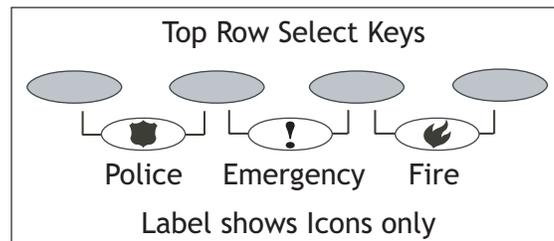

Figure 5: Panic key label placement
All 7000 Series keypads offer a Panic key function that allows users to send Panic, Emergency, or Fire reports to the central station. You must enable the Panic key function in the keypad user menu in order to use the Panic keys. See Programming Instructions later in this document. If enabled in keypad programming, the Panic key function activates as soon as you apply power to the keypad. Install the three (3) supplied icon labels below the top row of Select keys as shown in Figure 5.